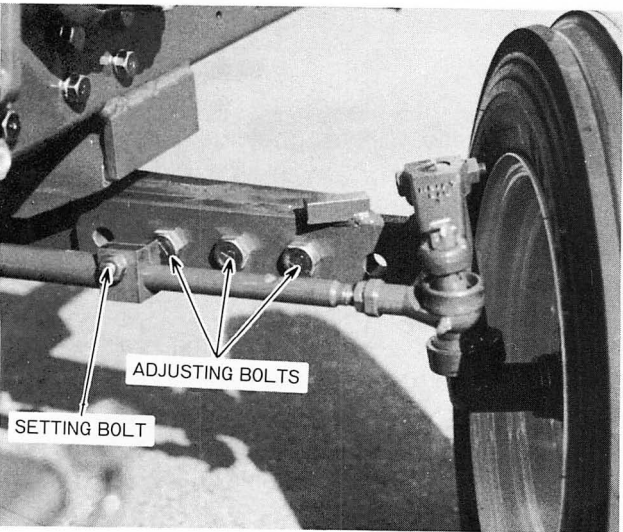

Figure 25 — Front Wheel Tread Settings (Optional)
3. Remove the adjusting bolts, Figure 25, and move the axle sections in or out until the desired setting is obtained, then reinstall the adjusting bolts.